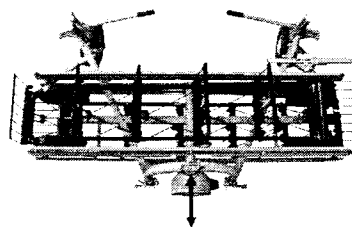

Fig. 6
- the adjustable tie-rod of the third point regulates the position of the comb in the movement direction. Anyway, the comb must be parallel to the ground (fig. 6).